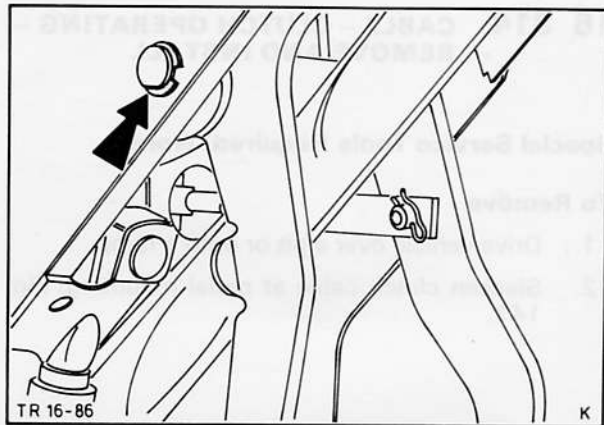

Fig. 138. Clutch pedal shaft retaining clip
1. Slacken clutch operating cable, unhook return spring and detach retaining clip from pedal shaft, Fig. 138.